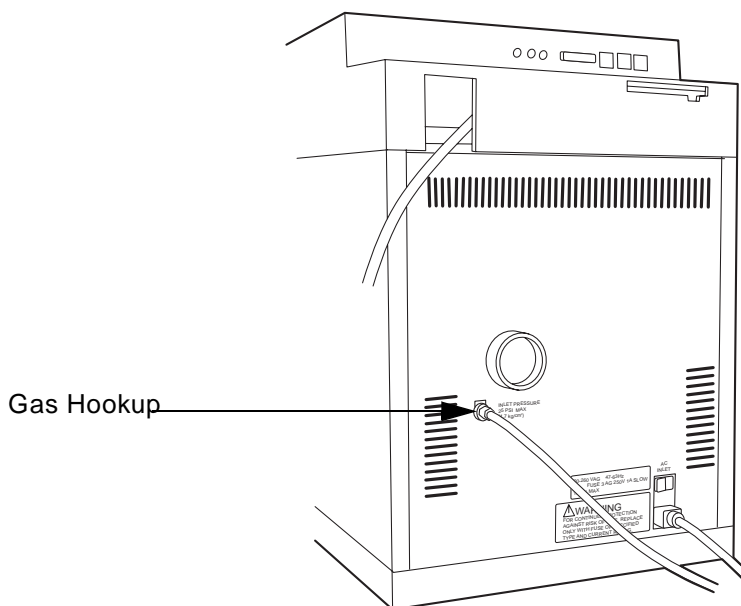

Figure 4-3 Rear of Instrument Cabinet
1. Decrease the gas pressure on the 2-stage cylinder regulator to zero (0).
3. Disconnect the gas supply line from the rear of the instrument cabinet by pressing the quick release tab (see Figure 4-3).